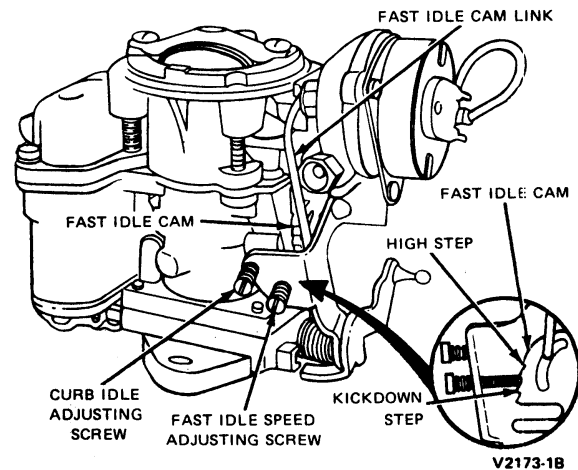

FIG. 3 Fast Idle Adjusting Screw
1. Position the fast idle screw on the kickdown step of the fast idle cam and against the shoulder of the high step (Fig. 3).